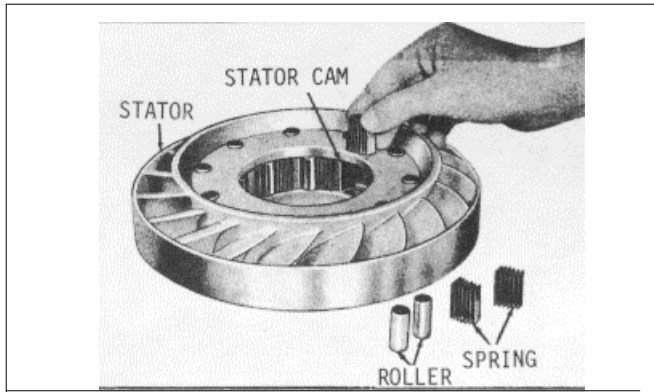

Fig. 21
(3) Assembly
- (a) Install the freewheel rollers and springs into the stator cam (Fig. 21). Rollers and springs may be retained with a heavy coating of oil soluble grease.